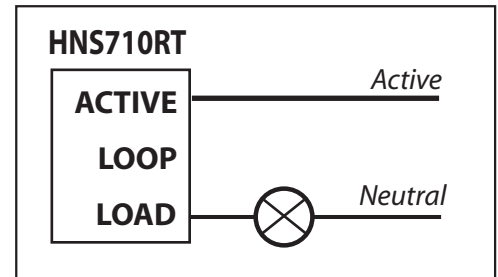

Fig 5: Wiring Diagram
- Wire the HNS710RT as per the wiring diagram in Fig 5. Affix Instruction Sticker behind wall plate.